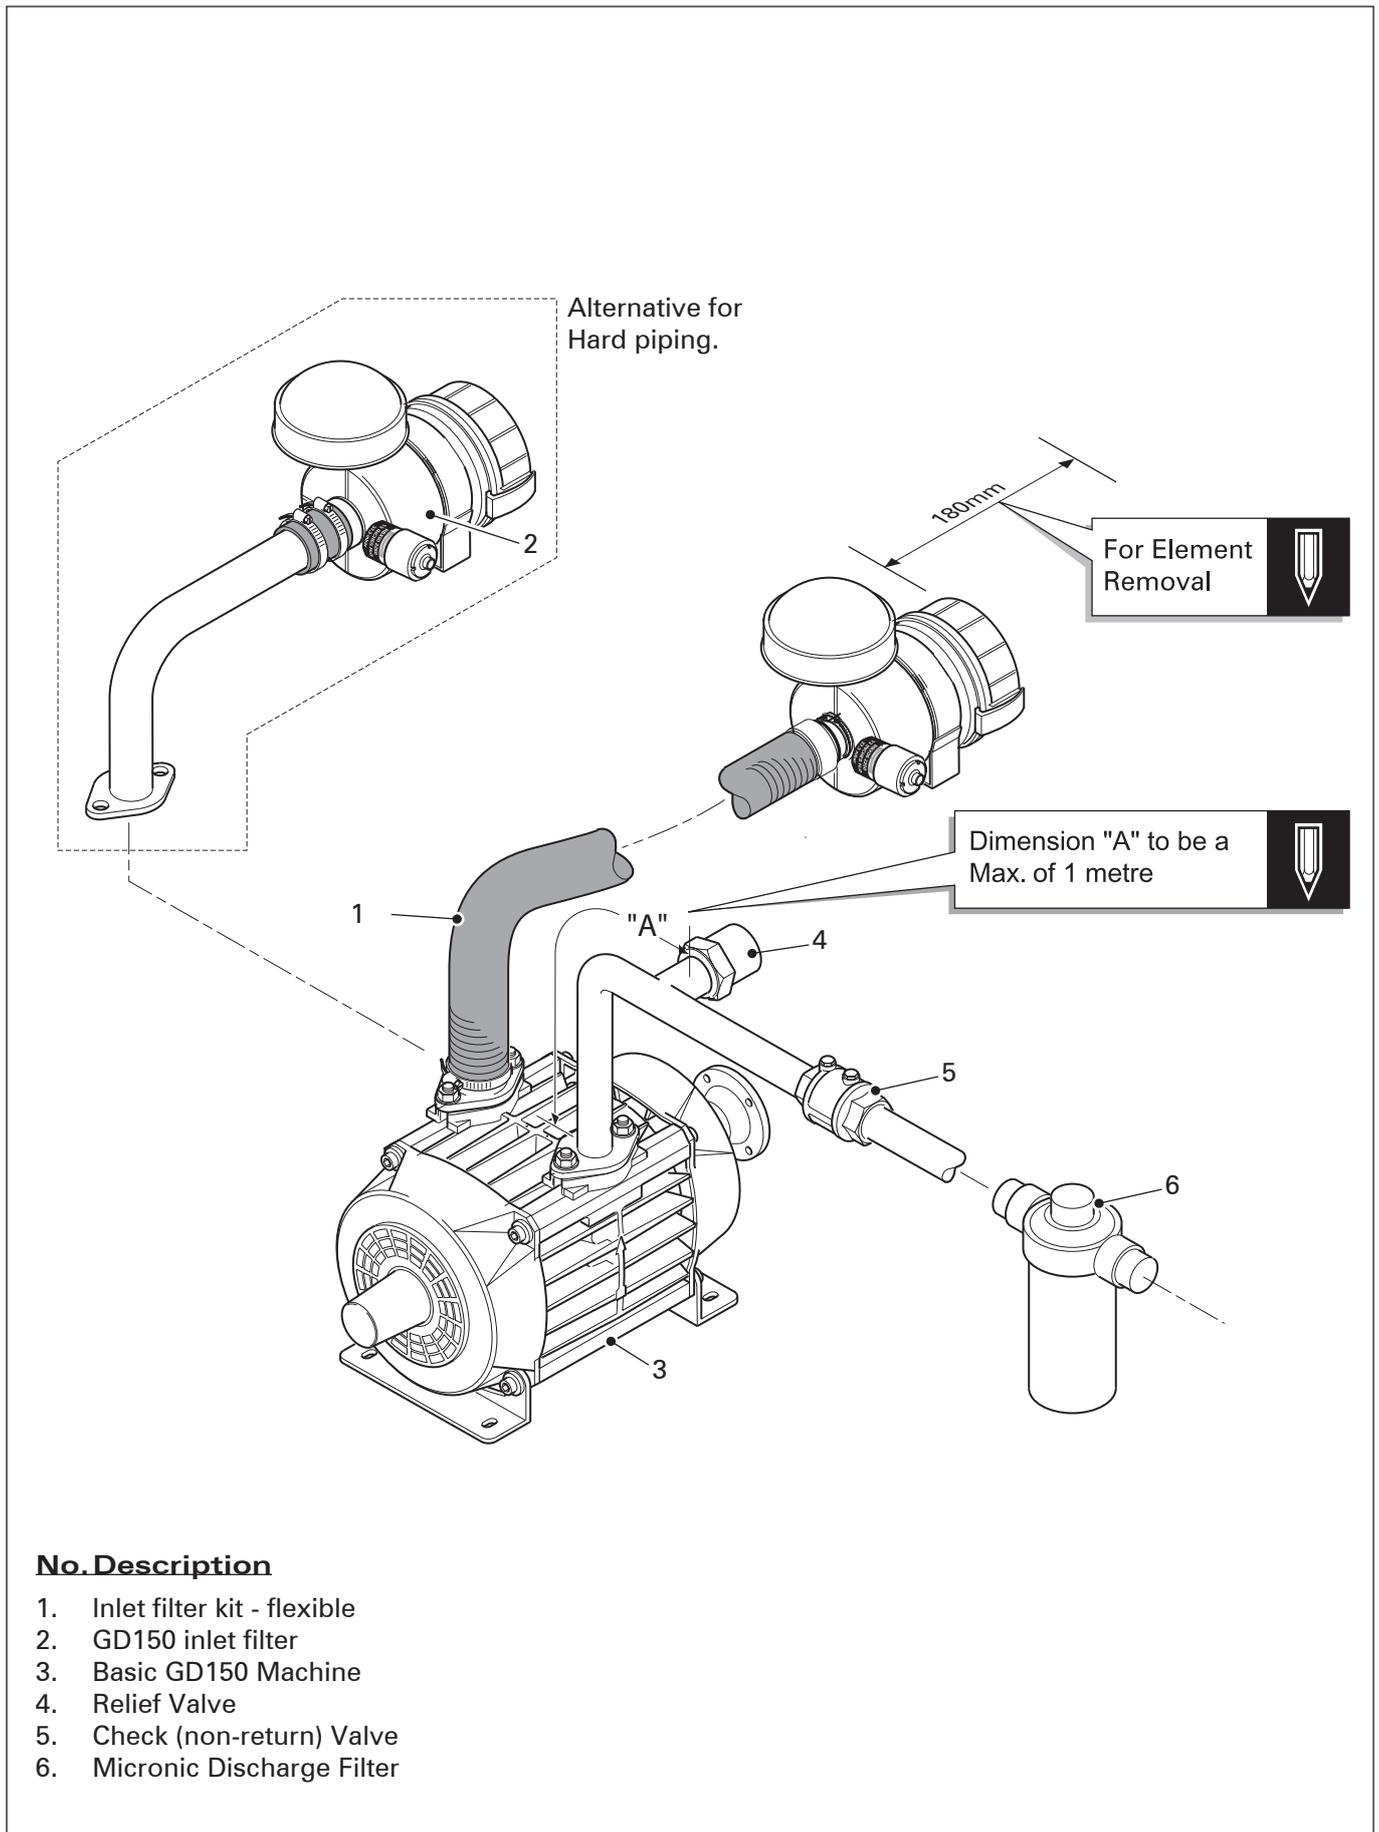

Figure1. Recommended Layout
For the recommended layout of the machine and ancillaries, see figure 1.
3.8 Pipe work - Figures 1 & 8 show typical pipe work layouts